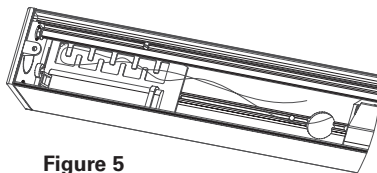

Figure 5
- Excess wire length can be held in place in the wire trap (See Figure 5).
- If the fixture is to be wall mounted, first, loosen the set screw on the back of the pivot housing. Then remove the locking clip by sliding it to the end of the pivot housing (See Figure 5). Rotate the pivot housing 90 degrees, and then replace the locking clip. Tighten the set screw.